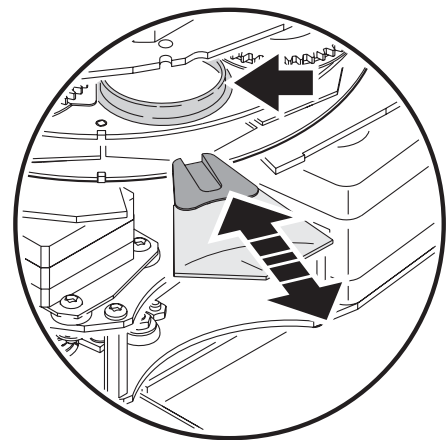

Figure 8: Filter replacement
3. For best access, align the rotating gobo wheel so that the open position is above the color filter to be replaced (see arrow in Figure 8).